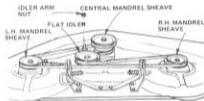

FIGURE 53
6. Check Deck Idler Arm Assembly and Flat Idler to see that they rotate freely (Fig. 53).
7. Be sure spring is hooked in Deck Idler Arm Assembly and on belt in Mower Housing (Fig. 53).
8. Install new Belt in groove of L.H. Mandrel Sheave, lower groove of Center Mandrel Sheave and around Flat Idler as shown (Fig. 53).
9. From a position at discharge end of mower, roll Belt into groove of R.H. Mandrel Sheave (Fig. 53).